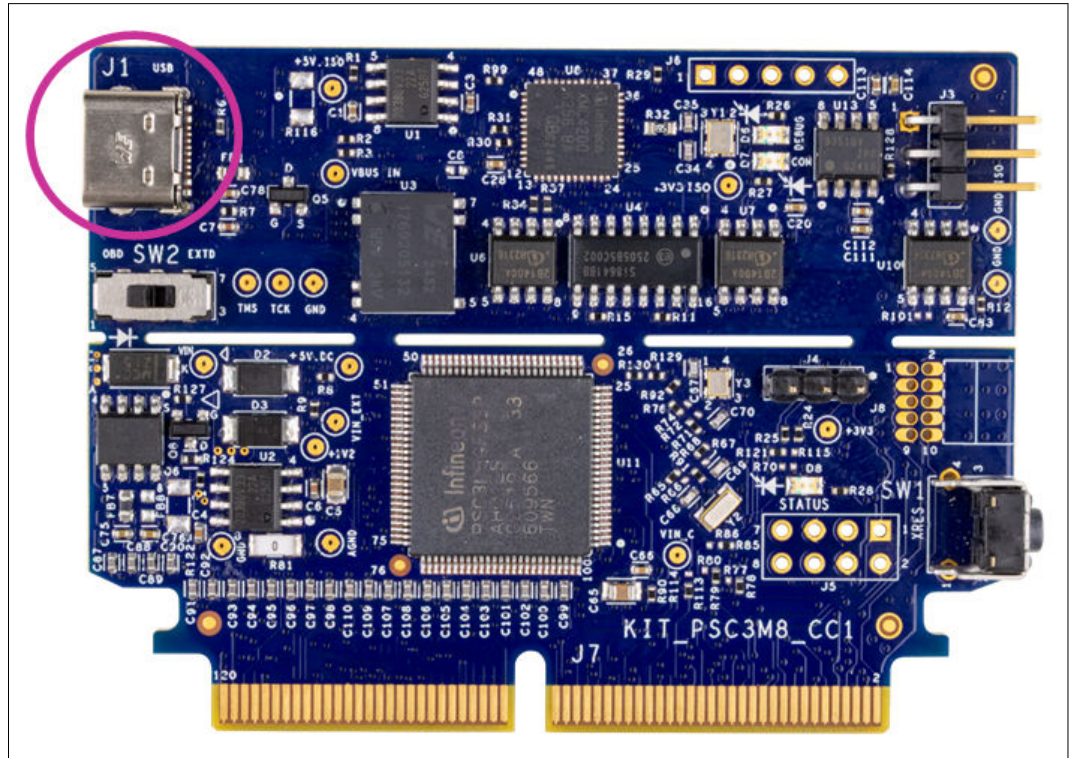

Figure 3 Connect USB cable to USB connector on the board
1. Connect the board to the PC using the provided USB cable through the JLink USB connector, as shown in Figure 3. It enumerates as a USB composite device if you are connecting it to your PC for the first time